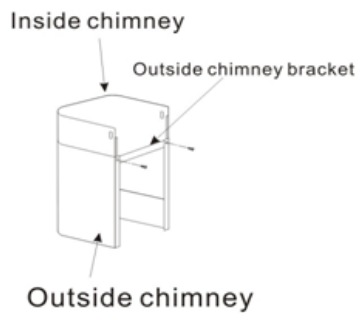

Fig. 06
4. Lead the extensible pipe outside of the room, meanwhile adjust the height of the inside chimney to the position of the inside chimney bracket and fix on it by screw, here should be sure the inside chimney can be flexed freely (Fig. 06).